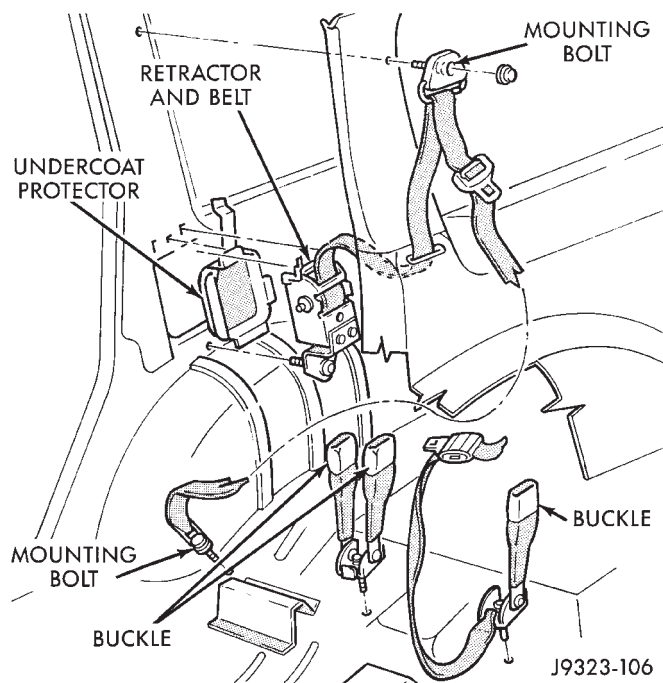

Fig. 11 Rear Seat Shoulder Belt
(4) Remove rear seat shoulder belt retaining bolt (Fig. 11).